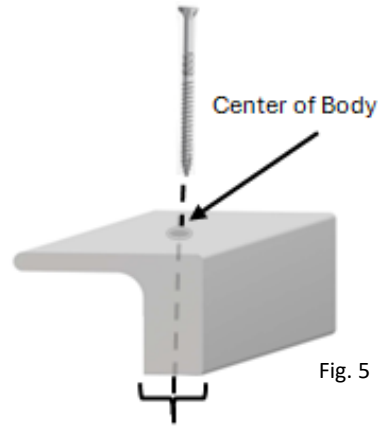

Fig. 5
2. Measure the body of the trim and add 1/8" - 1/4" to ensure clearance between the top of the siding panel and the base of the trim pocket (Fig 5).
- Finish nail, decking screw or Cortex screw with matching color plug into the center of the main body of the trim. (Fig 5).